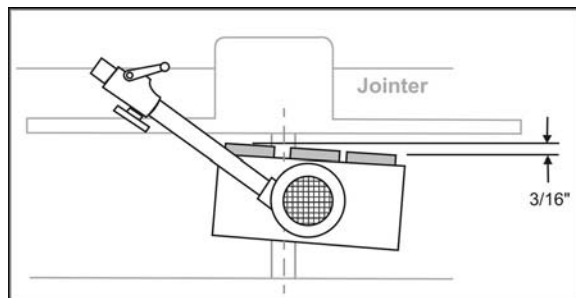

Figure 21
- Mount the 3-roller stock feeder on a jointer so that the cutterhead is between the outfeed roller and the center roller (Figure 21). The 4-roller stock feeder can be positioned so that the cutterhead is between the center rollers.
- Rotate the Stock Feeder so that the direction of feed is angled slightly toward the fence by approximately 3/16" (5mm); that is, the outfeed roller should be slightly closer to the fence than the infeed roller. See Figures 21 and 22.